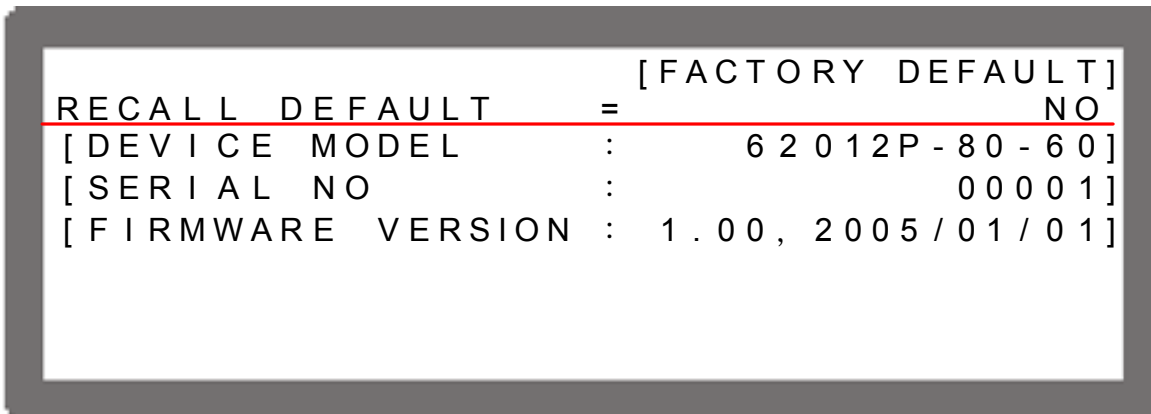

Figure 3-95
1. In Config Setup page, press "6" to show Figure 3-95.